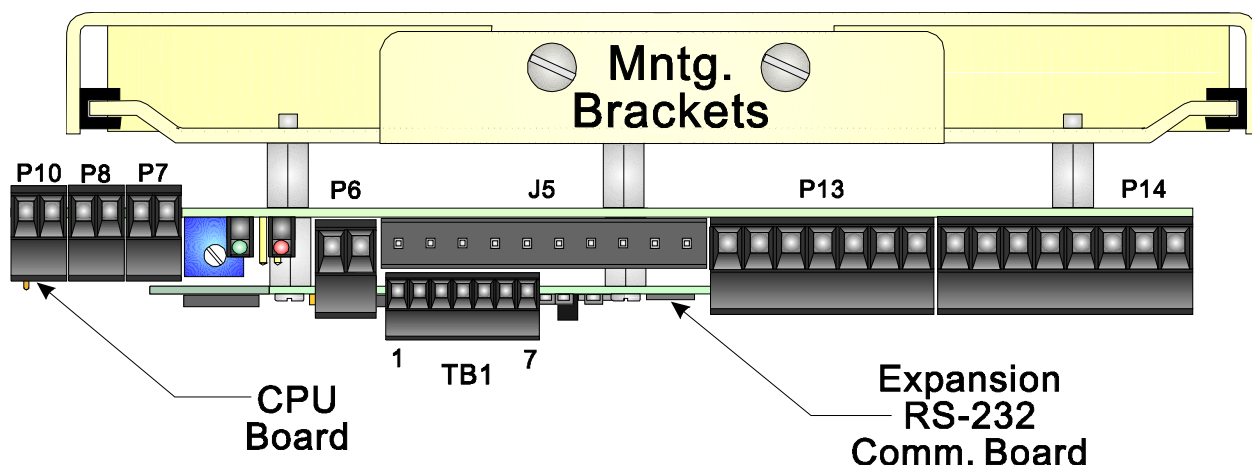

Figure 8 - 3530-20B CPU (with EXPCOM232 Installed)
7. Secure the EXPCOM232 Board to the CPU Board by installing three (3) #4-40 x 1/4" SEM screws as illustrated in Figures 8 & 9.